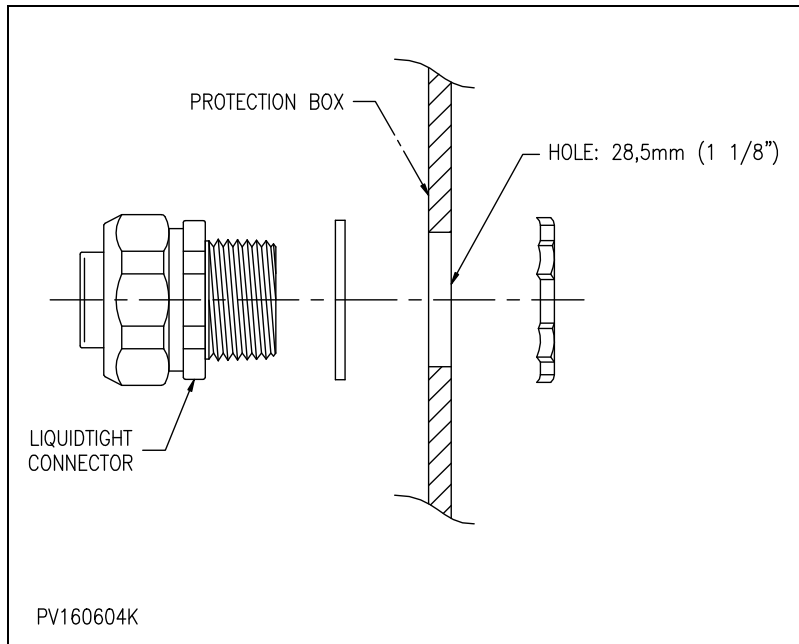

Figure 15 : Mounting the liquidtight connectors
3. After visualizing the routing of all cables, drill holes for the liquidtight connectors. Refer to Figure 15 : "Mounting the liquidtight connectors".